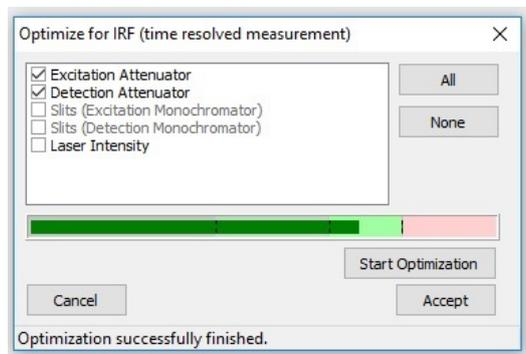

Fig. 33: IRF optimization.
- Press “Start Optimization” button. The software starts to optimize both excitation and emission attenuators in order to reach optimal signal level. When optimization is successfully finished (signal level is in the green area, see Fig. 33), press “Accept” button.